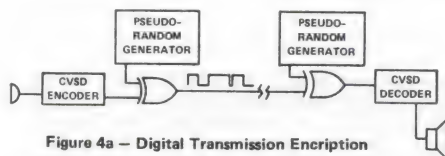
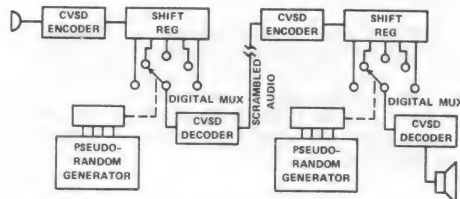

Figure 4a - Digital Transmission Encryption
Figure 4b - Voice Transmission Scrambling
- 2) **Secure Communications:** Digital data can be quite securely encrypted using fairly simple standard hardware (Figure 4a). Scrambled speech for audio channels may also be accomplished by encoding into a shift register, then selecting different segments of the shifted data in pseudo-random fashion and decoding it (Figure 4b).